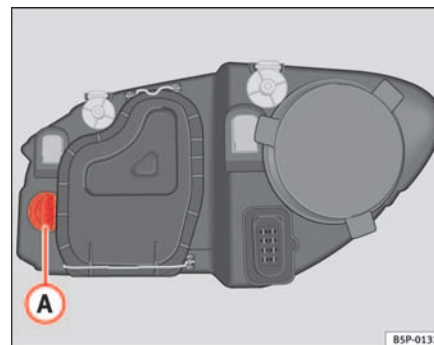

Fig. 155 Turn signal lamps
- Rotate the lamp holder ⇒ fig. 155 Ⓐ to the left and pull.